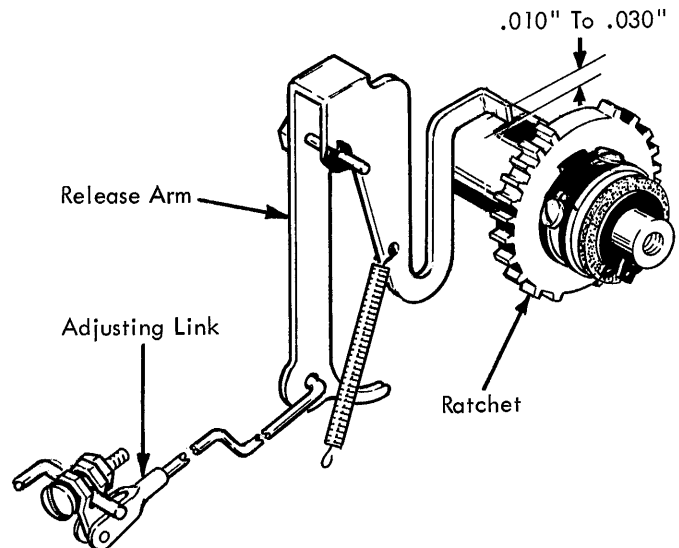

Figure 70. Shift Release Mechanism
5. Shift Release - Adjust the shift release link (Fig. 70). With the shift keylever bottomed, the shift release arm shall clear the shift clutch ratchet stop by  $.010''$  to  $.030''$ . A balance between the two releasing points insures the proper adjustment.
NOTE: The shift bellcrank (Fig. 70) attached to the right end of the bail should be set prior to making the link adjustment. For proper leverage the bellcrank should operate with same over-center travel in both directions.